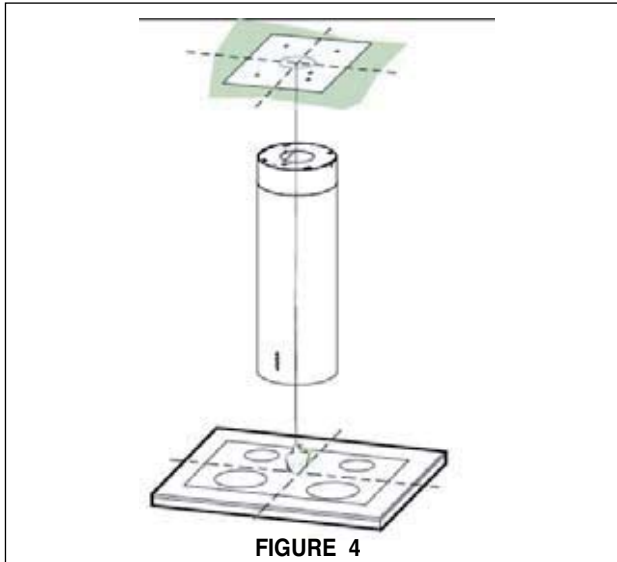

FIGURE 4
2. Use a plumb line to mark the center of the cooktop, use the mounting template on the ceiling to determine placement of mounting screws in ceiling. Install mounting screws, and mark the center of the holes in the ceiling template and drill the screw holes. (**See FIGURE 4**)